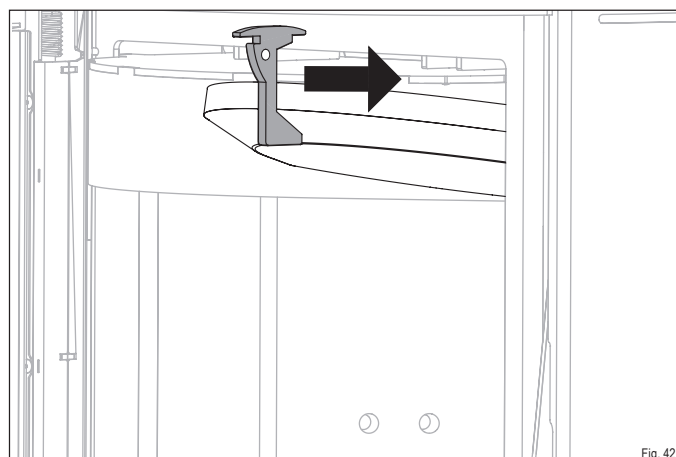

Fig. 42
- ▶ Slide the firebrick retainer forward (Fig. 42).